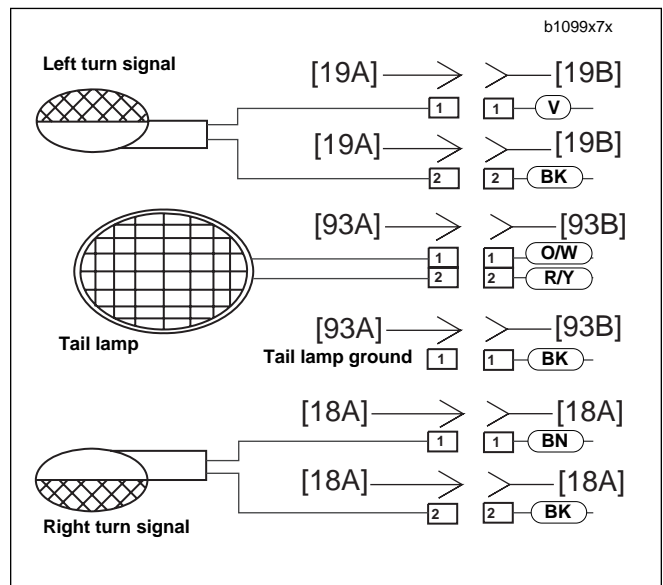

Figure 7-62. Rear Turn Signal Connections
3. Attach bullet connectors on turn signal wires as shown in Figure 7-62.
1. See Figure 7-62. Insert bullet connectors through center tail section.
4. Attach bullet connectors on turn signal wires as shown in Figure 7-62.